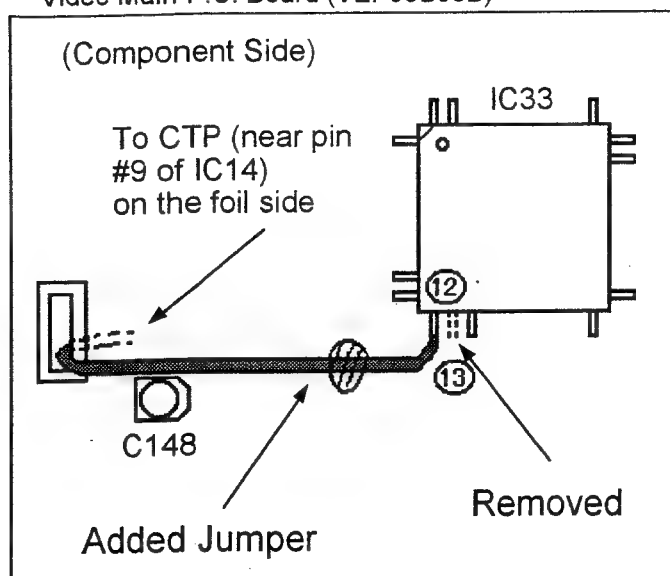

Fig. 1 Page 3-12 (B-2) / CBA-12 (B-2)
- 3). Bend R1015 to the Braker side (CP1) so as not to touch R1015 to pin #3 of P1016 as shown in figure 1.
- 1). Remove the leg of pin #13 of IC33 on the component side as shown in figures 1 and 3.
- 2). Connect a jumper wire between pin #12 of IC33 on the component side and through the hole and the CTP land (near pin #9 of IC14) on the foil side as shown in figures 1, 2, 3 and 4.